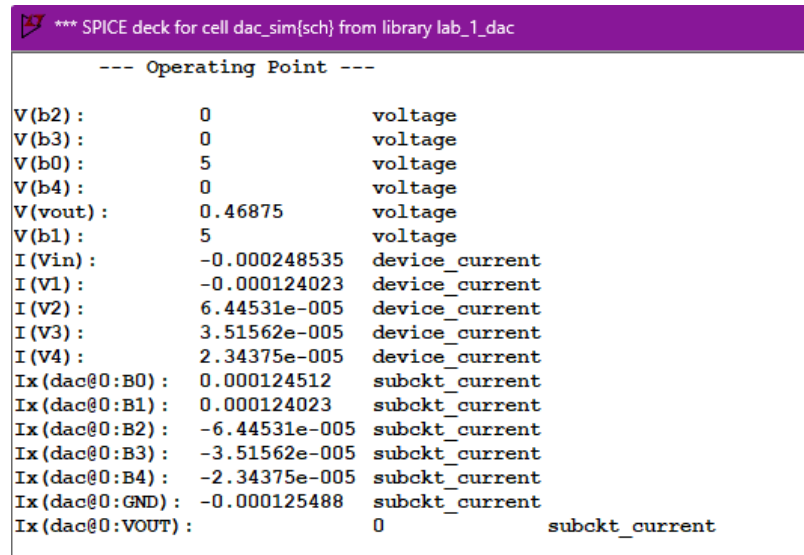

Figure 2.3: DAC Operating Point Schematic Results
- Figure 2.3 displays the operating point of the DAC with a voltage source of 5V.